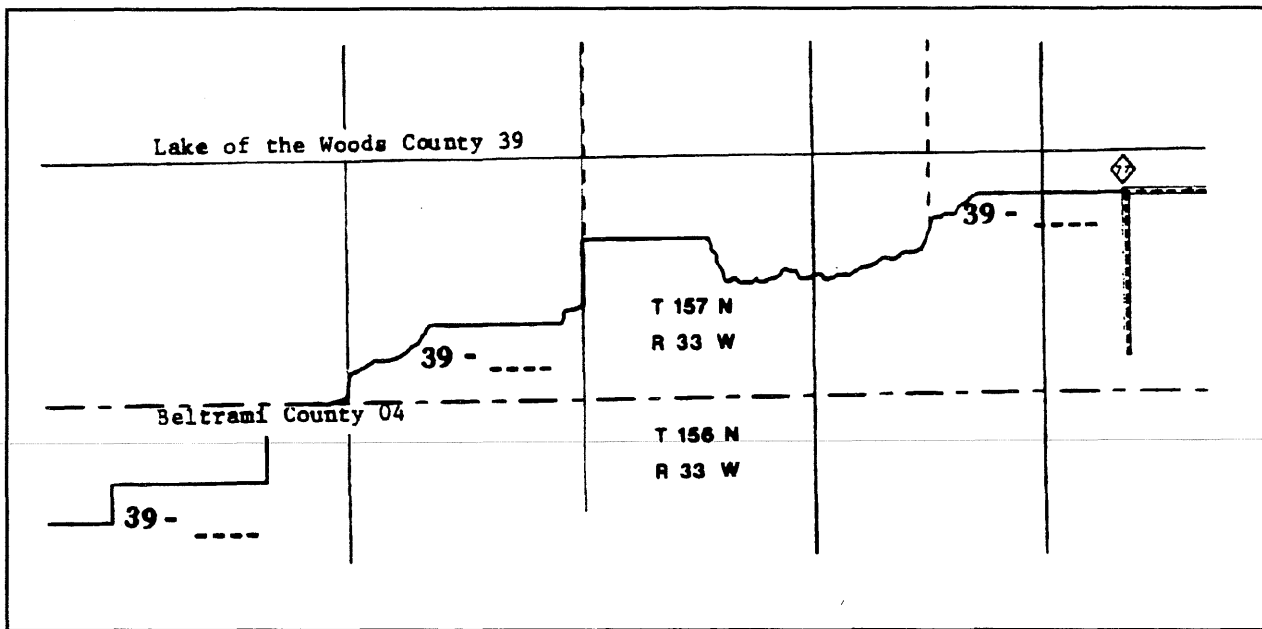

FIGURE NO. 1
All road numbers will start with a two (2) digit numerical code for the county in which the majority of mileage of a road, and its tributaries are located. The numerical code for the county will be in accordance with the list in Appendix A. A road that crosses a county line will retain the same county and road number, so that the road may be uniquely identified for computerization. Numbering will begin in the SW corner of the county and proceed in a clockwise manner around the county leaving blocks of unassigned numbers to accommodate future or anticipated additions to the road network. In some cases the road may run through a series of counties as well as Area and Region boundaries. The general rule will be to number the road system in sequence for the county in which the largest portion of the road mileage lies. See Figure No. 1.